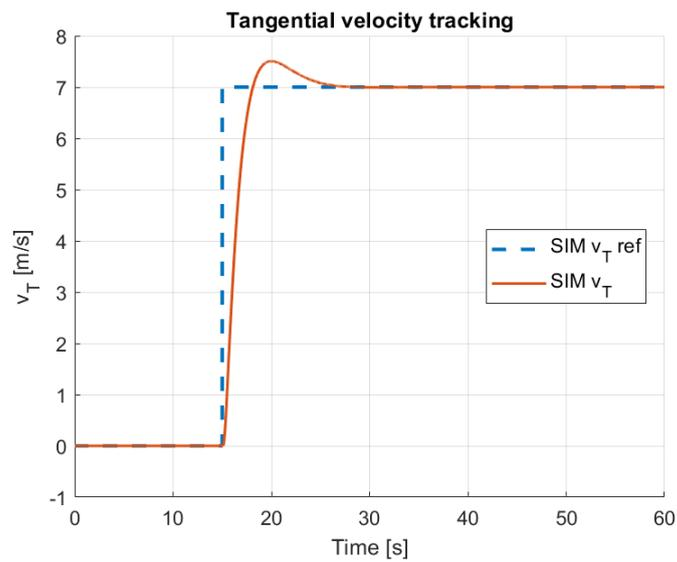
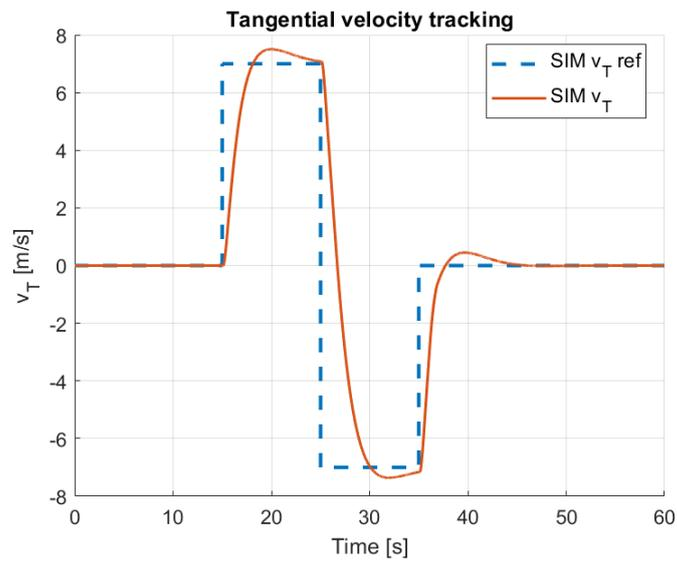
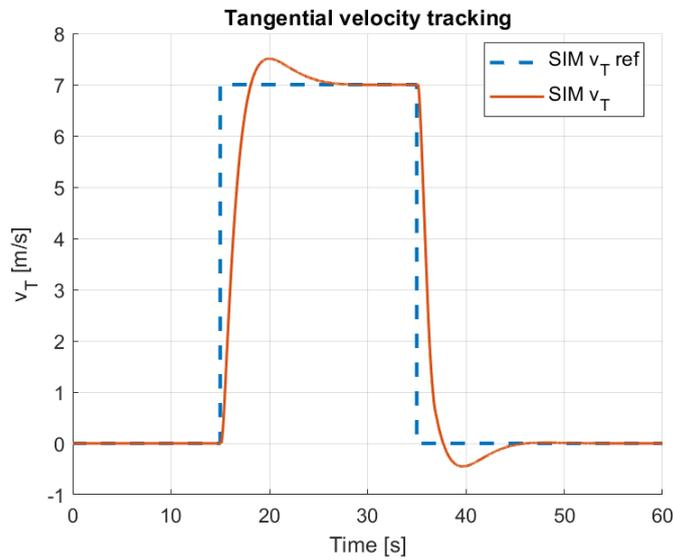
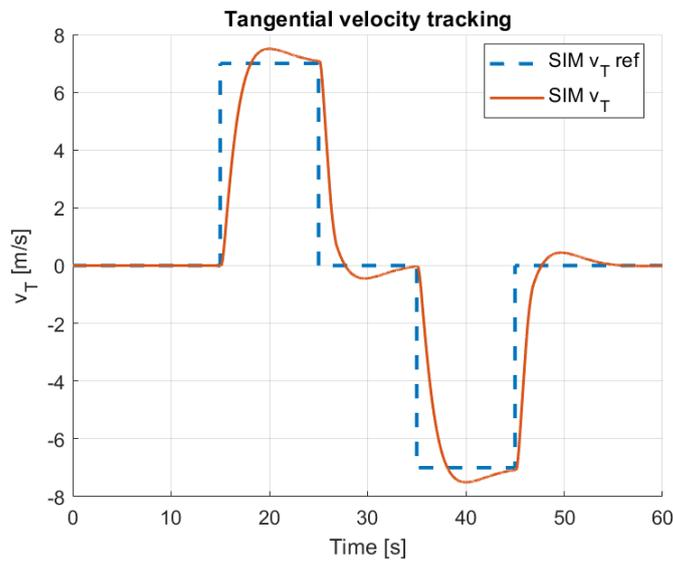

Figure 1: Step velocity response in tangential direction
Figure 2: Doublet velocity response in tangential direction
Figure 3: Half doublet velocity response in tangential direction
Figure 4: Elongated doublet velocity response in tangential direction
- Give X, Y, Z and Yaw reference signal shapes and values. Step (see Fig. 1), doublet (see Fig. 2), half doublet (see Fig. 3) and elongated doublet (see Fig. 4) types can be selected. Step parameters are given by the step. structure, while doublet (all three type) parameters by the doublet. structure. (lines 57-114)